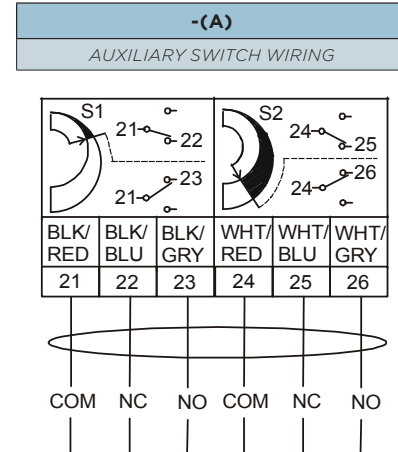
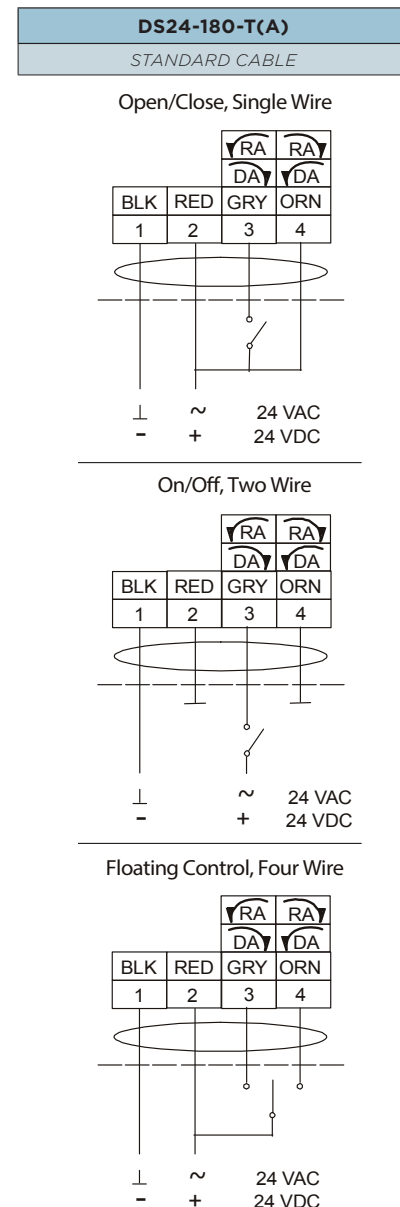

Figure 10: Auxiliary Switch Wiring for -A Models
Figure 11: Control wiring diagrams
See Figure 10 and Figure 11 for proper wiring of the DS24-180 Series On/Off Electric Spring Return Actuator.
1. With power off, move the mode selection switch to the CAL position (Figure 11). Then, energize the actuator. The actuator automatically rotates until the end-stops are found, and proportionally reconfigures the control input range to the reduced rotation range.